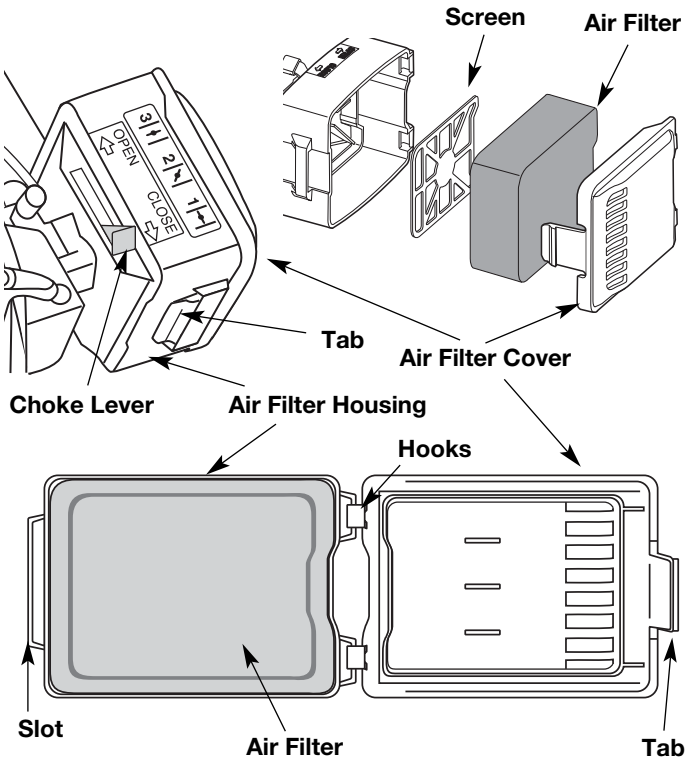

Fig. 19
1. Open the air filter cover. Push the tab on the left side of the cover in, swing the air filter cover out and off the air filter housing (Fig. 19).
2. Remove the air filter and the screen that sits behind it (Fig. 19).
6. Replace the filter (Fig. 19).
8. Swing the cover to the left until the tab on the air filter cover snaps into place in the slot on the left side of the air filter housing (Fig. 19).